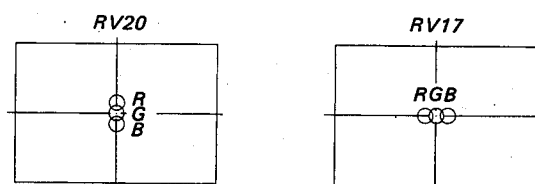

Fig. 1-7
1. Adjust the vertical static convergence with V.STAT (RV20) at the left side of control panel as shown in left of Fig 1-7.
2. Adjust the horizontal static convergence with H.STAT (RV17) at the left side of control panel as shown in right of Fig 1-7.